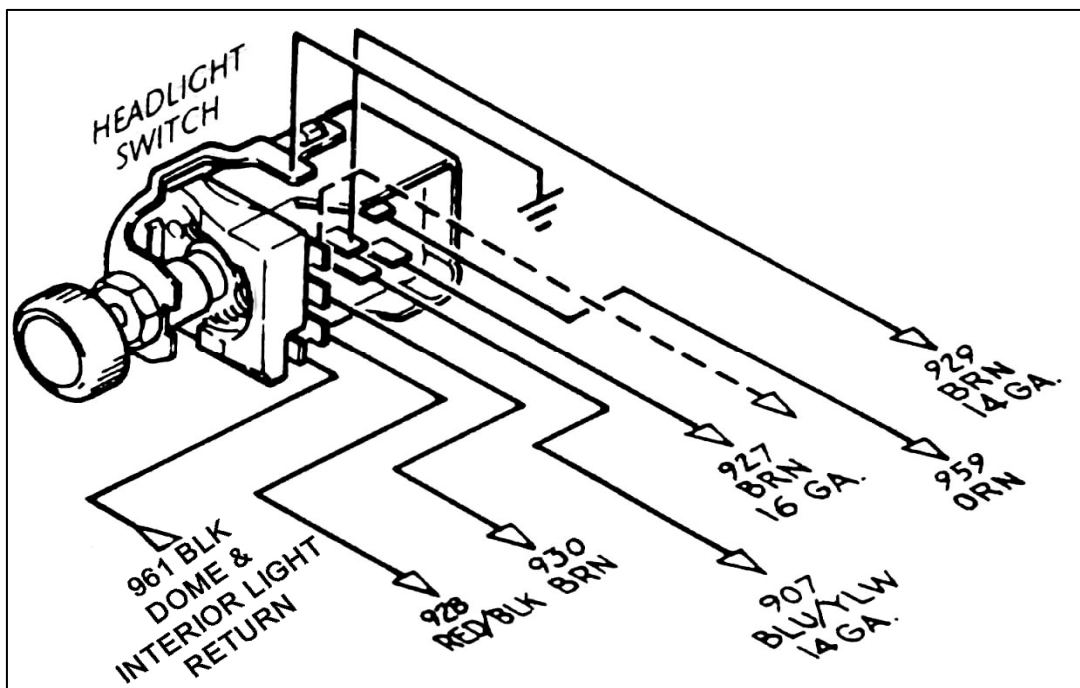

Figure 10-6 HEADLIGHT SECTION B Wiring (Painless Part #80152)
*Note: On late-style GM headlight switches, the park lights terminal to which wire #927 (brn) is connected (shown in **Figure 10-6**) has been omitted. In this case, wire #927 must be connected as indicated by the dashed line in **Figure 10-6**.*